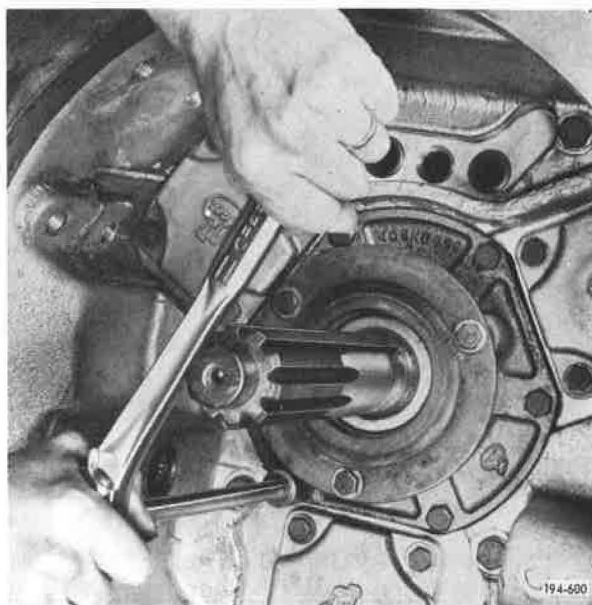

Figure 5-707. Removing Capscrews
12. Remove main drive pinion bearing cover cap screws. See **Figure 5-707.**